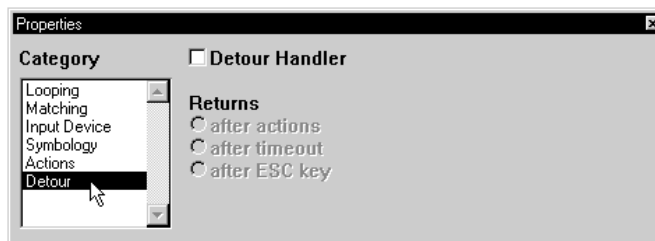

Figure 4-9 Properties Window - Detour Category
10. Click **Detour** from the **Category** list to select the Detour category (Figure 4-9).